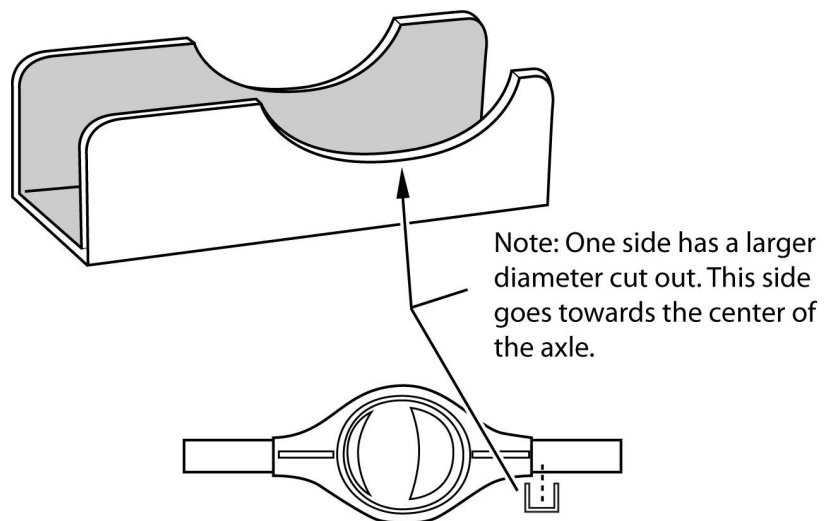

Figure 4: Larger cut out
- **NOTE:** One cut out in the perch is larger than the other side. This larger cutout will go over the housing portion of the center section. See figure 4.